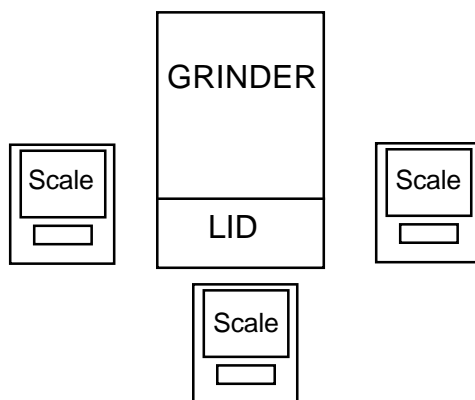
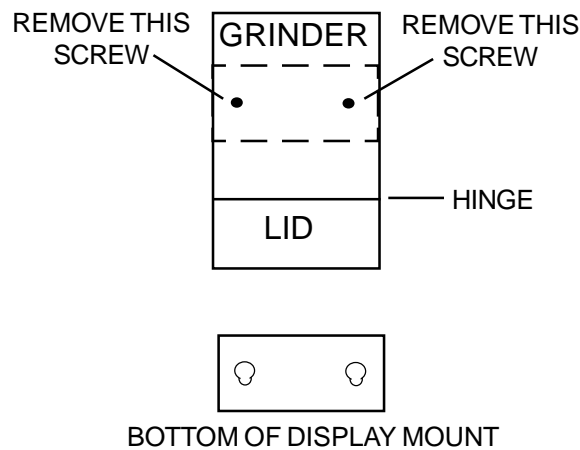

Figure 1. Possible Scale Locations.
Figure 2. Auxillary Display Mounting Location.
These instructions pertain to the Ohaus Navigator Scale, Part Number NDF1A2-2A0, with Ohaus Auxillary Display Kit, Part Number 80250787 to be installed at Dunkin Donuts locations. The Scale is placed either to the front, left or right of the coffee grinder, depending on the desired product flow. See Figure 1 for location. The Auxillary Display is to be mounted on top of the grinder and secured with the hardware supplied. Refer to Figure 2 for mounting location.
1. Place the Scale in the front of or on either side of the coffee grinder, whatever is convenient for your operation. See Figure 1.
1. Remove the (2) screws located on top of the grinder as shown in Figure 2.